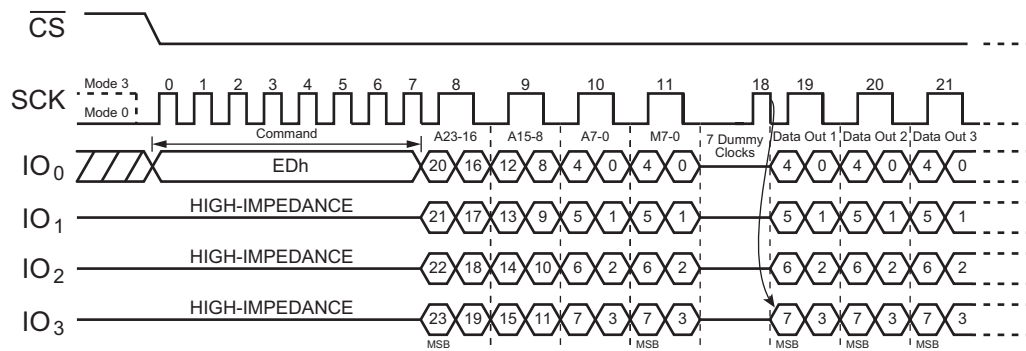
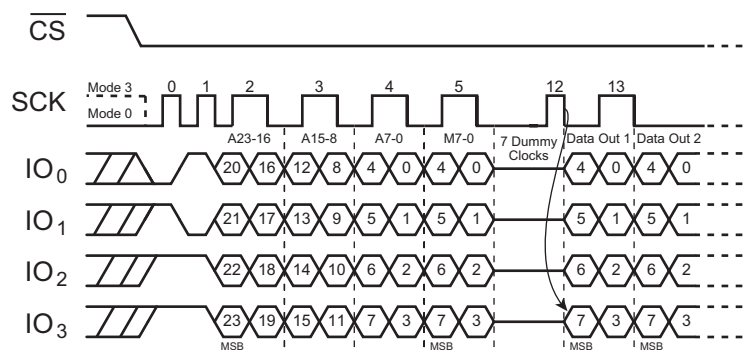
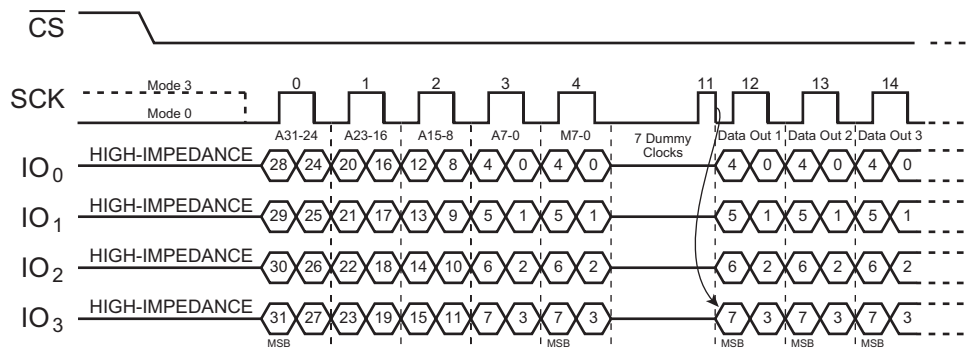

Figure 53. DTR Fast Read Quad I/O (SPI Mode, Three-Byte Address Mode; Initial command or previous (M5-4≠(1,0))
Figure 57. DTR Fast Read Quad I/O (QPI Mode, Three-Byte Address Mode; Initial command or previous (M5-4≠(1,0)))
Figure 60. DTR Fast Read Quad I/O (QPI Mode, Four-Byte Address Mode; Initial command or previous (M5-4=(1,0)))
The DTR Fast Read Quad I/O (EDh) command is similar to the Fast Read Dual I/O (BBh) command, except that address and data bits are input and output through four pins: IO₀, IO₁, IO₂, and IO₃; also, four Dummy clocks are required in SPI mode before the data output, as shown in Figure 53 to Figure 60. The Quad Enable bit (QE) of Status Register must be set to enable.
The DTR Fast Read Quad I/O command is also supported in QPI mode, as shown in Figure 57 to Figure 60. In QPI mode, the Continuous Read Mode can further reduce command overhead by setting the Continuous Read Mode bits (M7-0) after the input Address bits (A23/31-0). See the description on previous pages. If the Continuous Read Mode bits (M5-4) = (1,0), the next Fast Read Quad I/O command (after CS is raised and then lowered) does not require the EDh opcode. If the Continuous Read Mode bits M5-4 do not equal (1,0), the next command requires the first EDh opcode, thus returning to normal operation. A Continuous Read Mode Reset command can also be used to reset (M5-4) before issuing normal command.